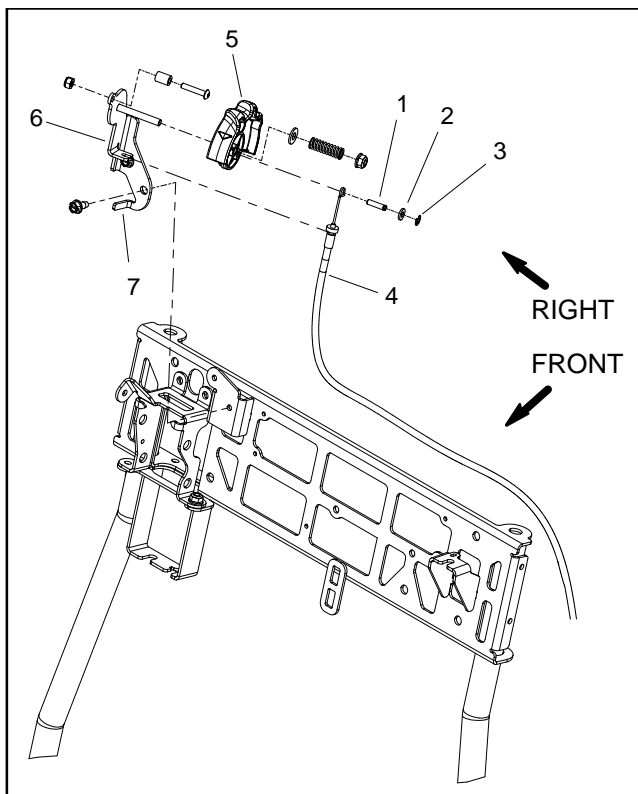

Figure 5
4. Remove throttle cable from the throttle control assembly (Fig. 5):
1. Connect throttle cable to throttle control assembly (Fig. 5):
2. Route throttle cable to the engine. Make sure that cable is routed on right side of throttle mount cable guide (item 7 in Fig. 5).